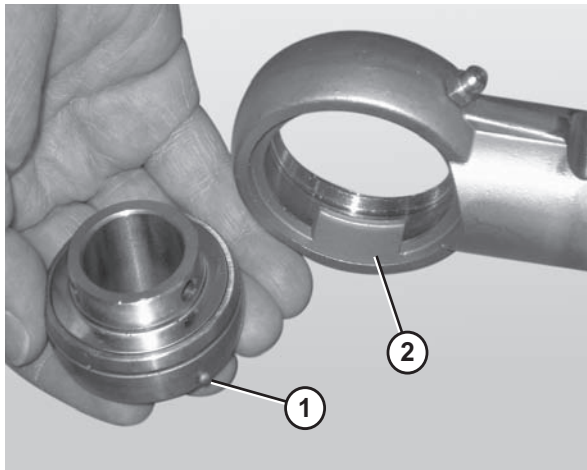

Figure 77
4. Remove the worn or damaged bearing (**Figure 77**).
When inserting the new bearing, make sure the anti-rotation notch (**Figure 77, item 1**) on the bearing lines up with the groove inside the housing (**Figure 77, item 2**).